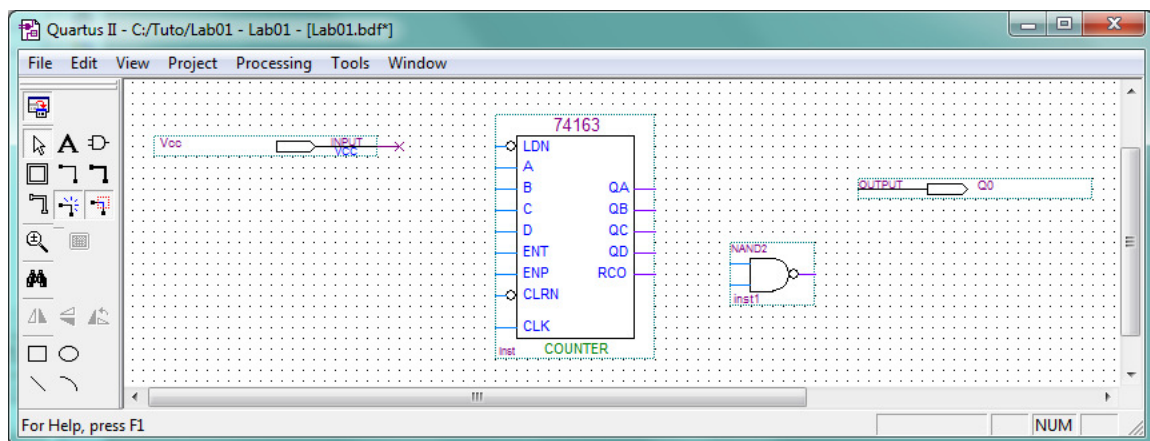

Fig. 6: Adding components to the schematic file
5. Select components to be added to the schematic file as shown in Fig. 6. Components can be added using one of the following method: